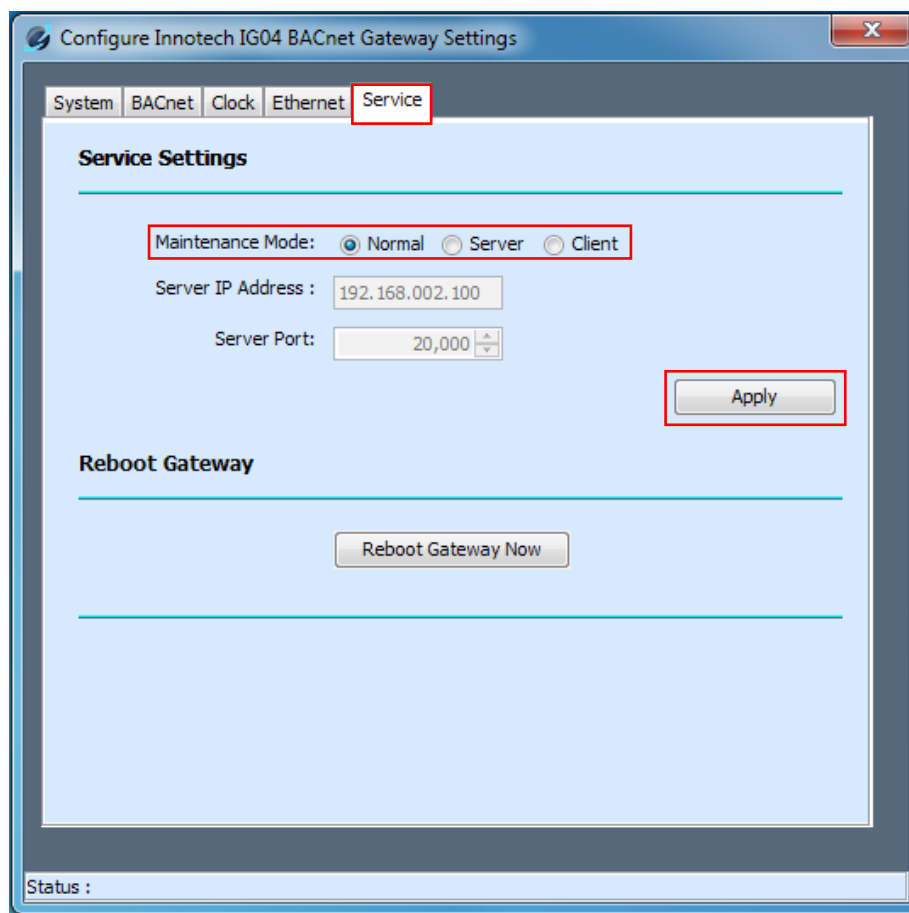

Figure 19: Configure IG04 settings in FusionLIVE – Service Tab
*The Maintenance mode is a service tool for Innotech personnel only. It MUST be set to **Normal** in order to view the data from the Vaisala device, unless instructed otherwise, as illustrated in Figure 19 below.*